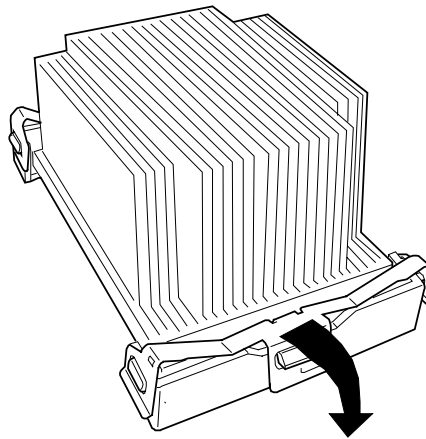

Figure 4-19. Removing the Heat Sink Clip
- With both ends of the clip released, rotate the clip away from the heat sink to disengage it from the center tab on the retention module. See Figure 4-19. The clip is rotated over the top of the center tab. Sometimes it's easier to slide the clip to release it from the center retention tab.